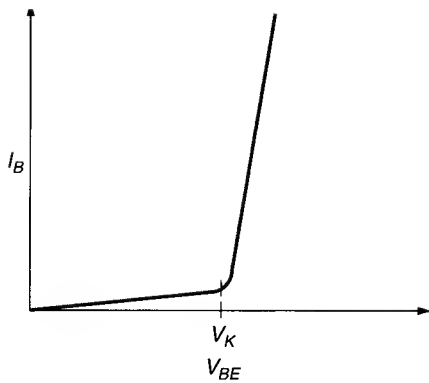

FIGURE 6.26 A base characteristic curve.
The **base curve** of a transistor plots I_B as a function of V_{BE} , as shown in Figure 6.26. Note that this curve closely resembles the forward operating curve of a typical *pn*-junction diode.
5. The base curve in Figure 6.26 indicates that the base-emitter junction of a transistor acts like what component? Explain your answer.